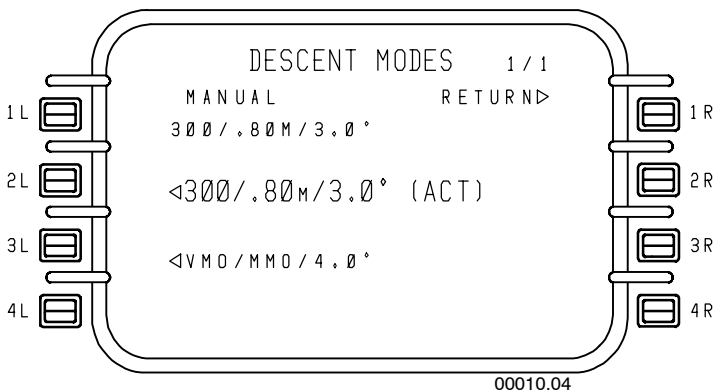

Figure 5-12
- **DESCENT MODES** - Figure 5-12 is available only when using FULL PERF. The page shows the available descent modes as well as which one is active.